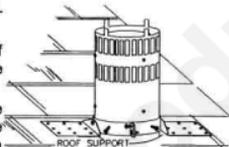

FIGURE 9
6. Thread the air terminal pipe assembly down through the roof. Fasten the roof support to the roof using the screws provided. **FIGURE 9.** The air terminal must be located vertically and plumb.